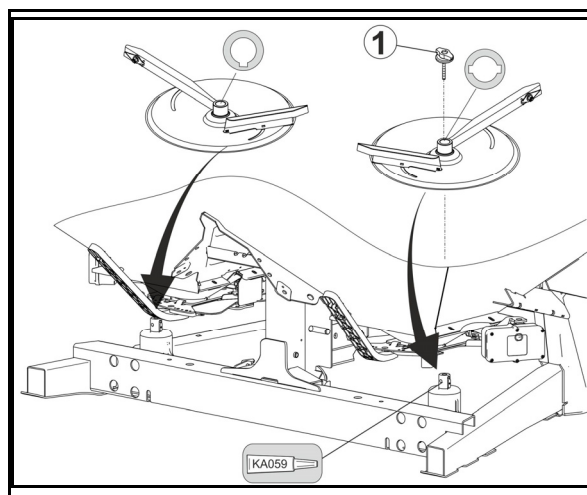

Fig. 60
1. Remove the wing nut (Fig. 60/1).